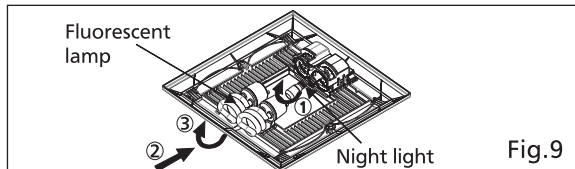

Fig.9
11. Install the night light and fluorescent lamps. (Fig.9)
Install the fluorescent lamps (Please use Maxlite MLS13GU35 13W) as shown in step ② and step ③ of Fig.9 (page 7).